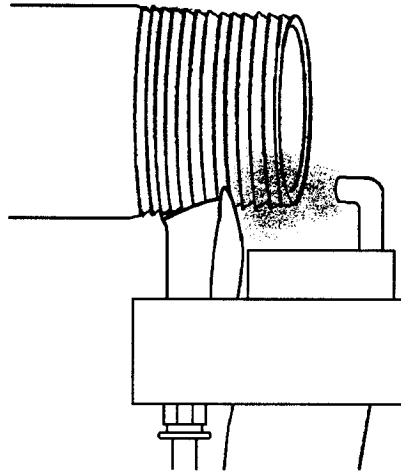

Figure 4-1 — Positioning Spray Gun
8. Position manual spray gun as shown in Figure 4-1. Test spray a few pipes. Check for proper film build, nozzle positioning, and air knife cutoff. Sprayhead may be adjusted for pipe wall thickness by loosening the small screw at the nozzle. The nozzle may then be re-positioned and clamped in place. Number of threads coated may be changed by loosening the small screw on the nozzle clamp. The nozzle clamp may then be moved to accommodate a greater or lesser number of threads.